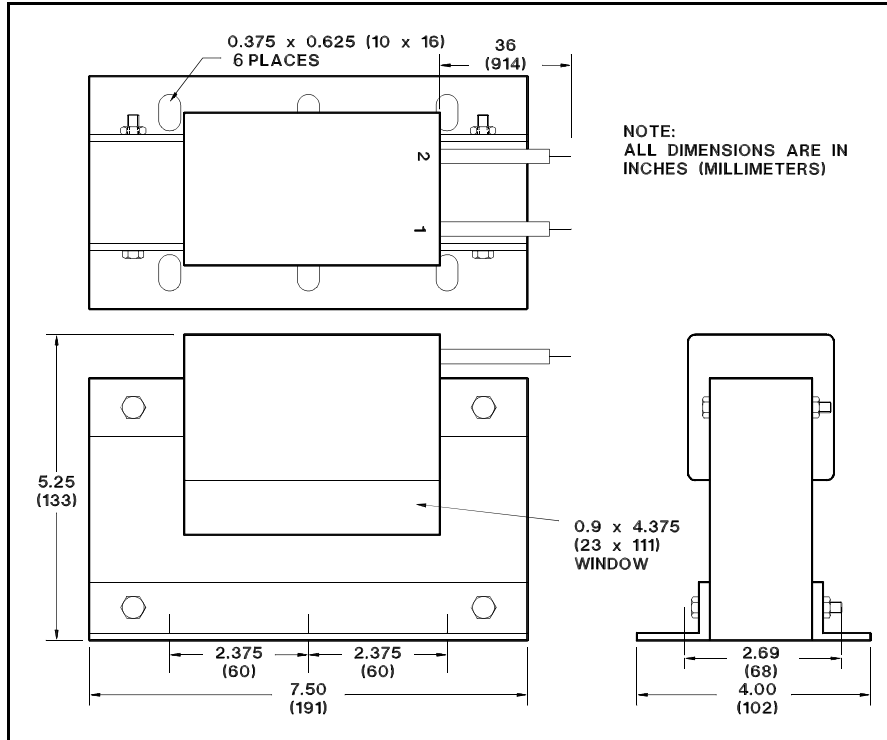

Figure 2-2. Outline Drawing - Current Transformer BE 21331-001
Mount securely using 5/16" mounting bolts in six places. Ensure that the mounting structure is adequate to support the transformer weight during shipping/transport and operation of the system. Refer to Figures 2-2 and 2-3 for the current transformer.
- b. The first numeral of the turns-ratio indicates the number of turns of each generator line that passes through the CT window. The second numeral indicates the CT secondary turns. Refer to Table 1-1 and to Figures 2-2 and 2-3 for the terminal numbers corresponding to the desired secondary turns.